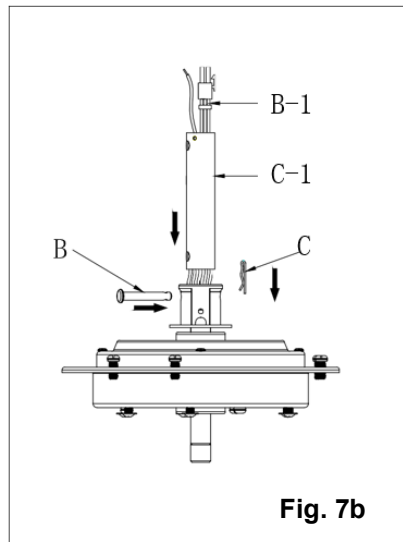

Fig. 7b
- Carefully feed the fan wires (B-1) up through the down rod (C-1). **(Fig. 7b)**
- Assemble the down rod (C-1) into the down rod coupling housing (A-1), by inserting and line up the down rod coupling housing holes with the down rod holes and insert the hitch pin (B) and secure with the lock clip (C). **(Fig. 7b)**